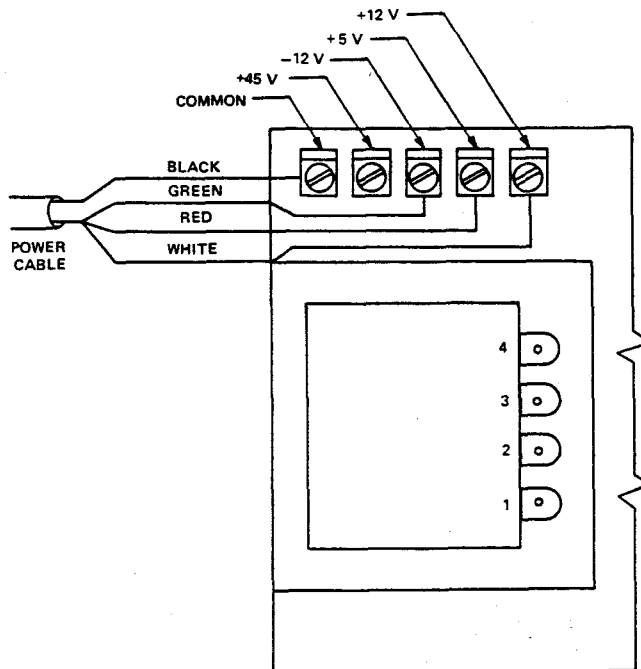

FIGURE 2-1. POWER CABLE CONNECTION TO THE TM990/518 POWER SUPPLY UNIT.
outlet. The power connect cable connects the power supply unit to the EVM (bottom) board power buses located in the center of the right margin of the prototyping area, and the EMU (top) board power buses located in the center of the right margin of the emulator board, as shown in Figure 2-1. The connections on the EVM and Emulator ends of the power supply cable are positively keyed to prohibit misconnection to the power supply. Care should be exercised to insure proper connection at the power supply end (See 2.6, below).
1. Attach power-connect cable to both boards of the Emulator, as shown in Figure 2-1.